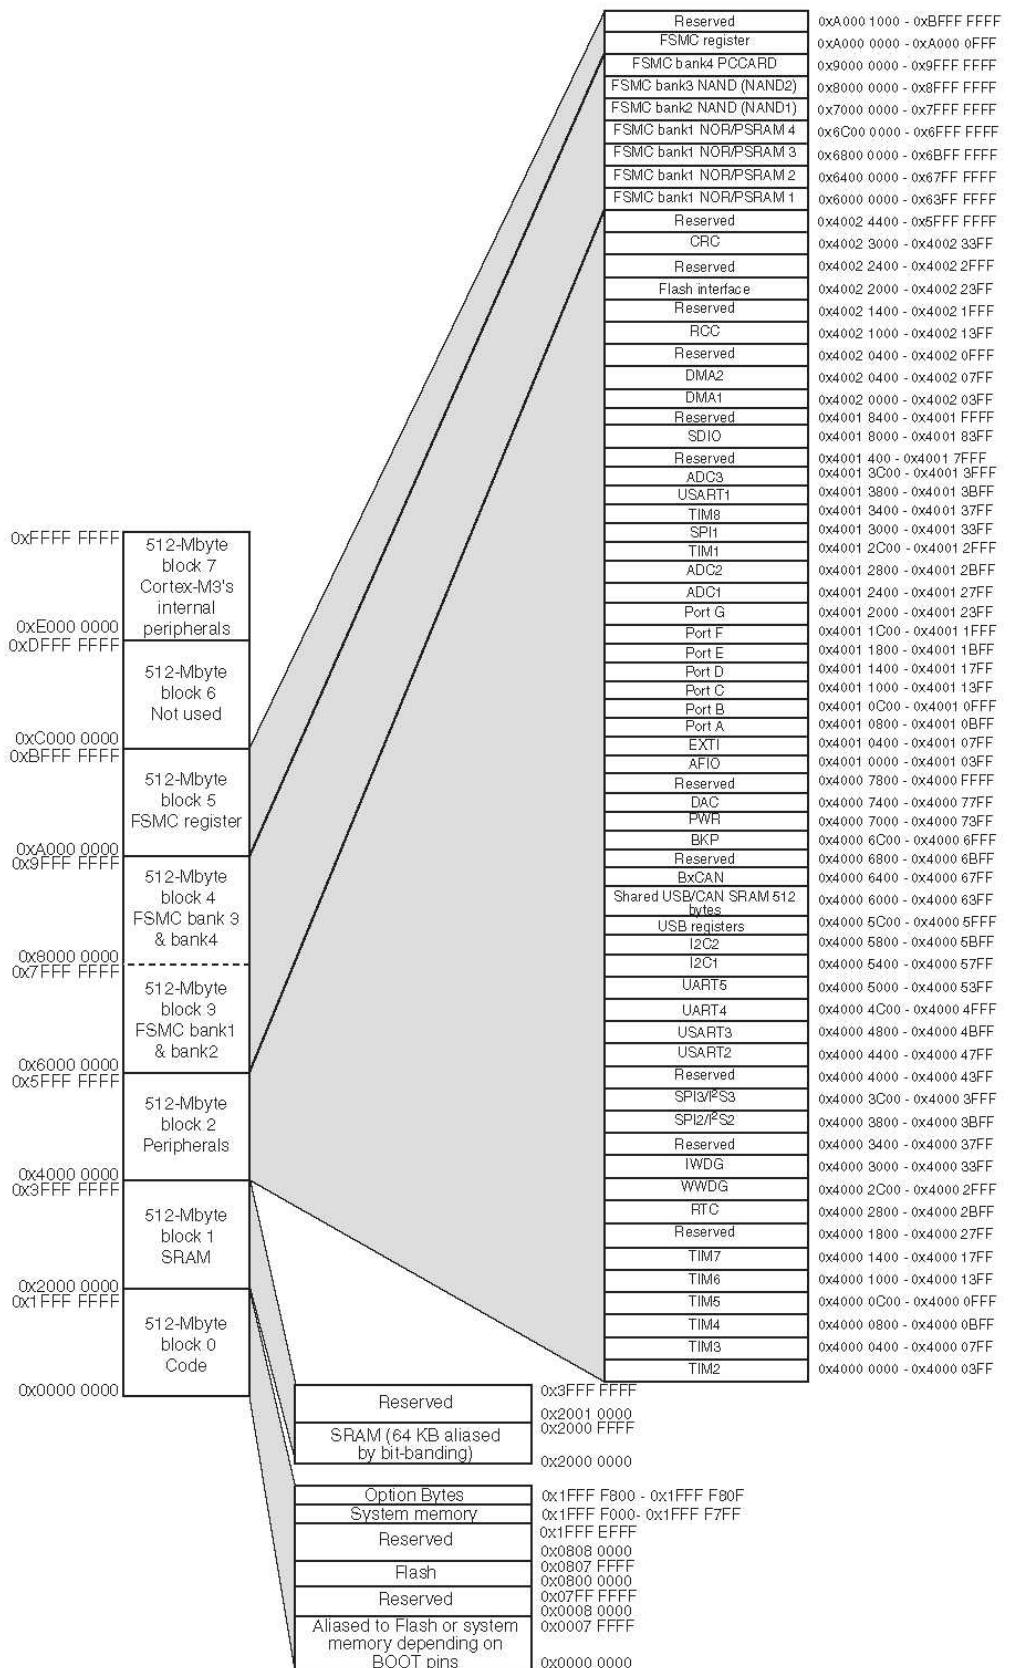

Figure 2-4B: Memory Map in STM32F103 (Copied from STM32F103xC Datasheet)
- On-chip Flash ROM:** A block of memory from a few kilobytes to megabytes is set aside for flash ROM. The flash ROM is used to store the program code. The memory can also be used for storage of static data such as text strings and look-up tables. The amount and the location of the Flash ROM space vary from chip to chip in the Arm products. See Table 2-2 and Examples 2-1 and 2-2. Figure 2-4B shows the memory map for STM32F103.